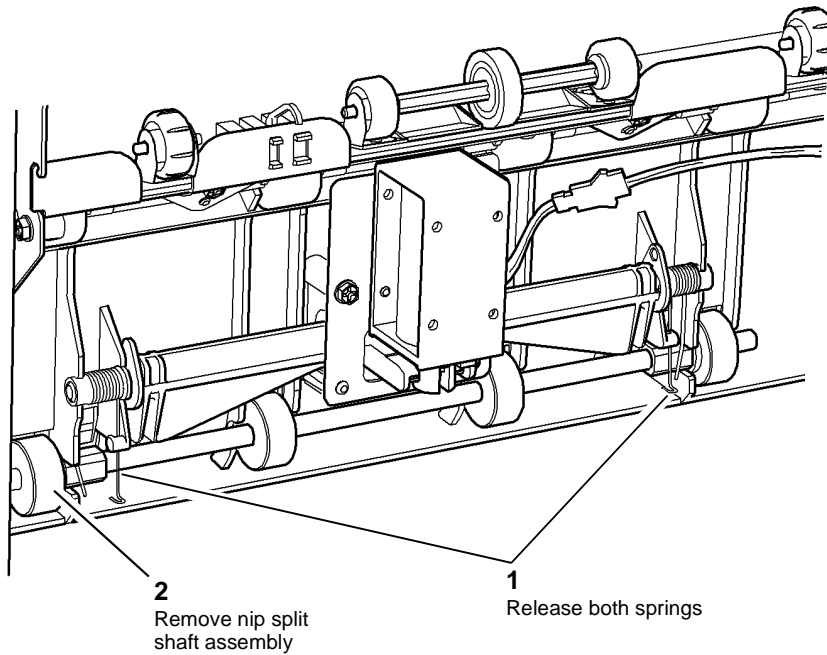

Figure 2 Nip split shaft assembly
4. Remove the nip split shaft assembly, Figure 2.